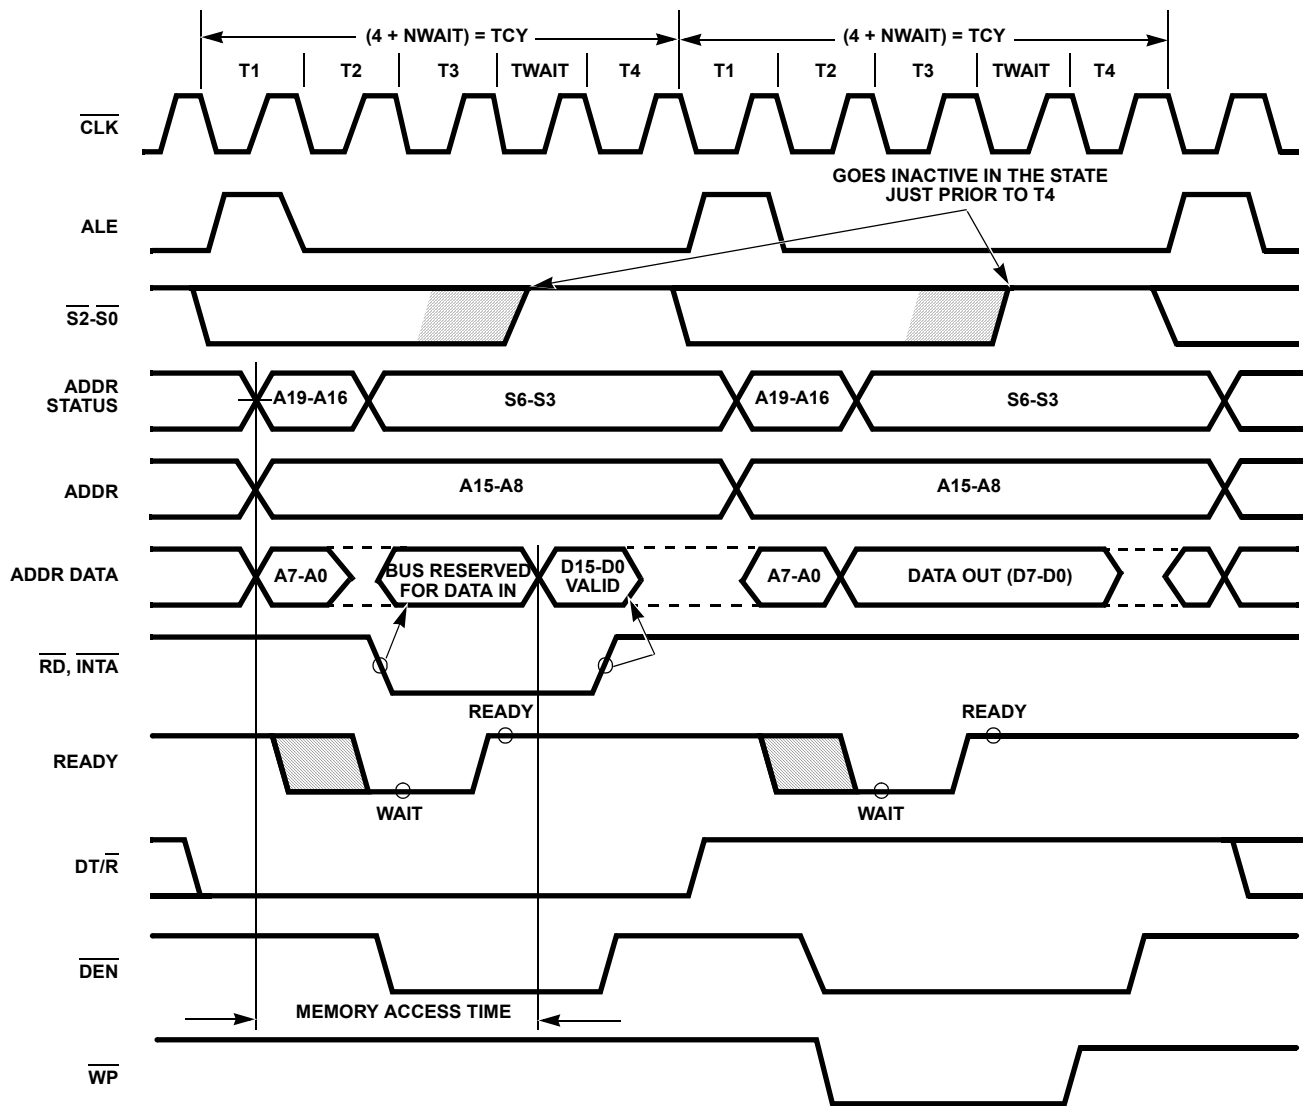

FIGURE 5. BASIC SYSTEM TIMING
Each processor bus cycle consists of at least four CLK cycles. These are referred to as T1, T2, T3 and T4. (See Figure 5). The address is emitted from the processor during T1 and data transfer occurs on the bus during T3 and T4. T2 is used primarily for changing the direction of the bus during read operations. In the event that a "Not Ready" indication is given by the addressed device, "wait" states (TW) are inserted between T3 and T4. Each inserted "wait" state is of the same duration as a CLK cycle. Periods can occur between 80C88/883 driven bus cycles. These are referred to as "idle" states (T1), or inactive CLK cycles. The processor uses these cycles for internal housekeeping.
The read cycle begins in T1 with the assertion of the address latch enable (ALE) signal (see Figure 5). The trailing (low going) edge of this signal is used to latch the address information, which is valid on the address data bus (ADO-AD7) at this time, into the 82C82/82C83 latch. Address lines A8 through A15 do not need to be latched because they remain valid throughout the bus cycle. From T1 to T4 the  $\text{IO}/\overline{\text{M}}$  signal indicates a memory or I/O operation. At T2 the address is removed from the address data bus and the bus is held at the last valid logic state by internal bus-hold devices. The read control signal is also asserted at T2. The read ( $\overline{\text{RD}}$ ) signal causes the addressed device to enable its data bus drivers to the local bus. Some time later, valid data will be available on the bus and the addressed device will drive the READY line HIGH. When the processor returns the read signal to a HIGH level, the addressed device will again three-state its bus drivers. If a transceiver (82C86/82C87) is required to buffer the